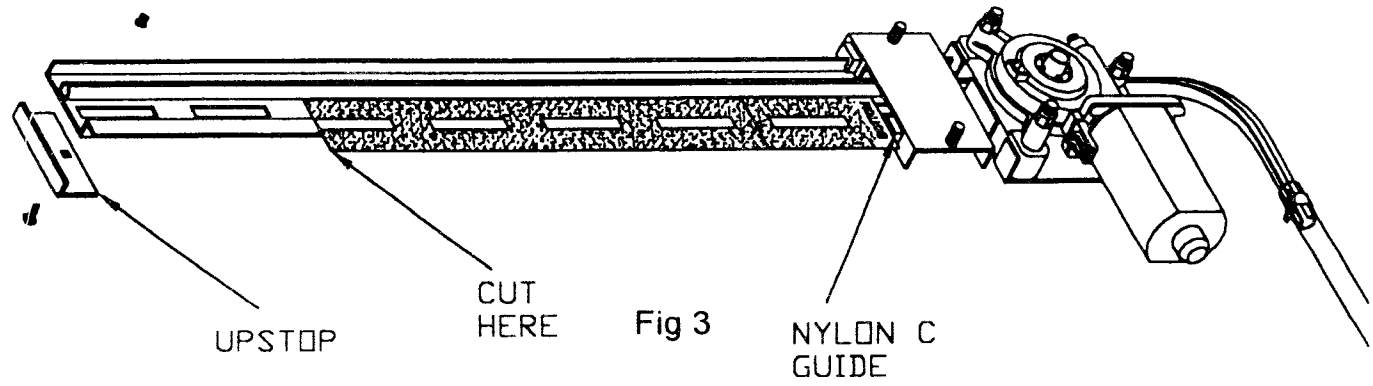

Fig 3
5. The regulators must be cut to the proper length for your vehicle. Place the template on top of the regulator nylon guide as shown in (Fig 3). The regulator must be in the fully down position before cutting to the correct length. Cut straight across the regulator on the end of the template. Remove end cap/up stop and reinstall on the new end of the regulator. This may require drilling if the stop carriage bolt does not align with a pre cut slot.